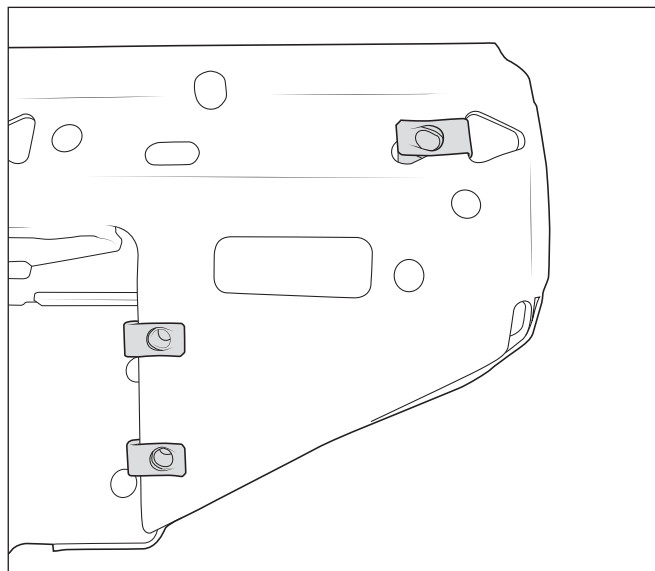

Figure 5
2. If installing full width EX corners, install U-nuts to rear of main weldment (skip this step for RX narrow corners). Install two M8 u-nuts to each side of the lower angled portion and one M10 to the outer hole at the recessed rear surface (fig 5). These u-nuts are found within the corner kit fastener pack.